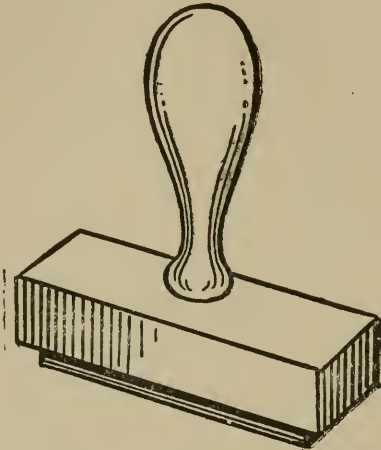

FIG. 77. THE RUBBER STAMP READY TO USE
A *rubber stamp* is type matter molded in rubber which is then mounted on a block with a handle as shown in Fig. 77. When the stamp is inked and then pressed on a smooth surface it leaves an impression on it.
**Mounting the Rubber.**— All that you need to do now is to trim off the edges of the rubber stamp with a pair of shears and mount it on a smooth block of wood having a handle as shown in Fig. 77.